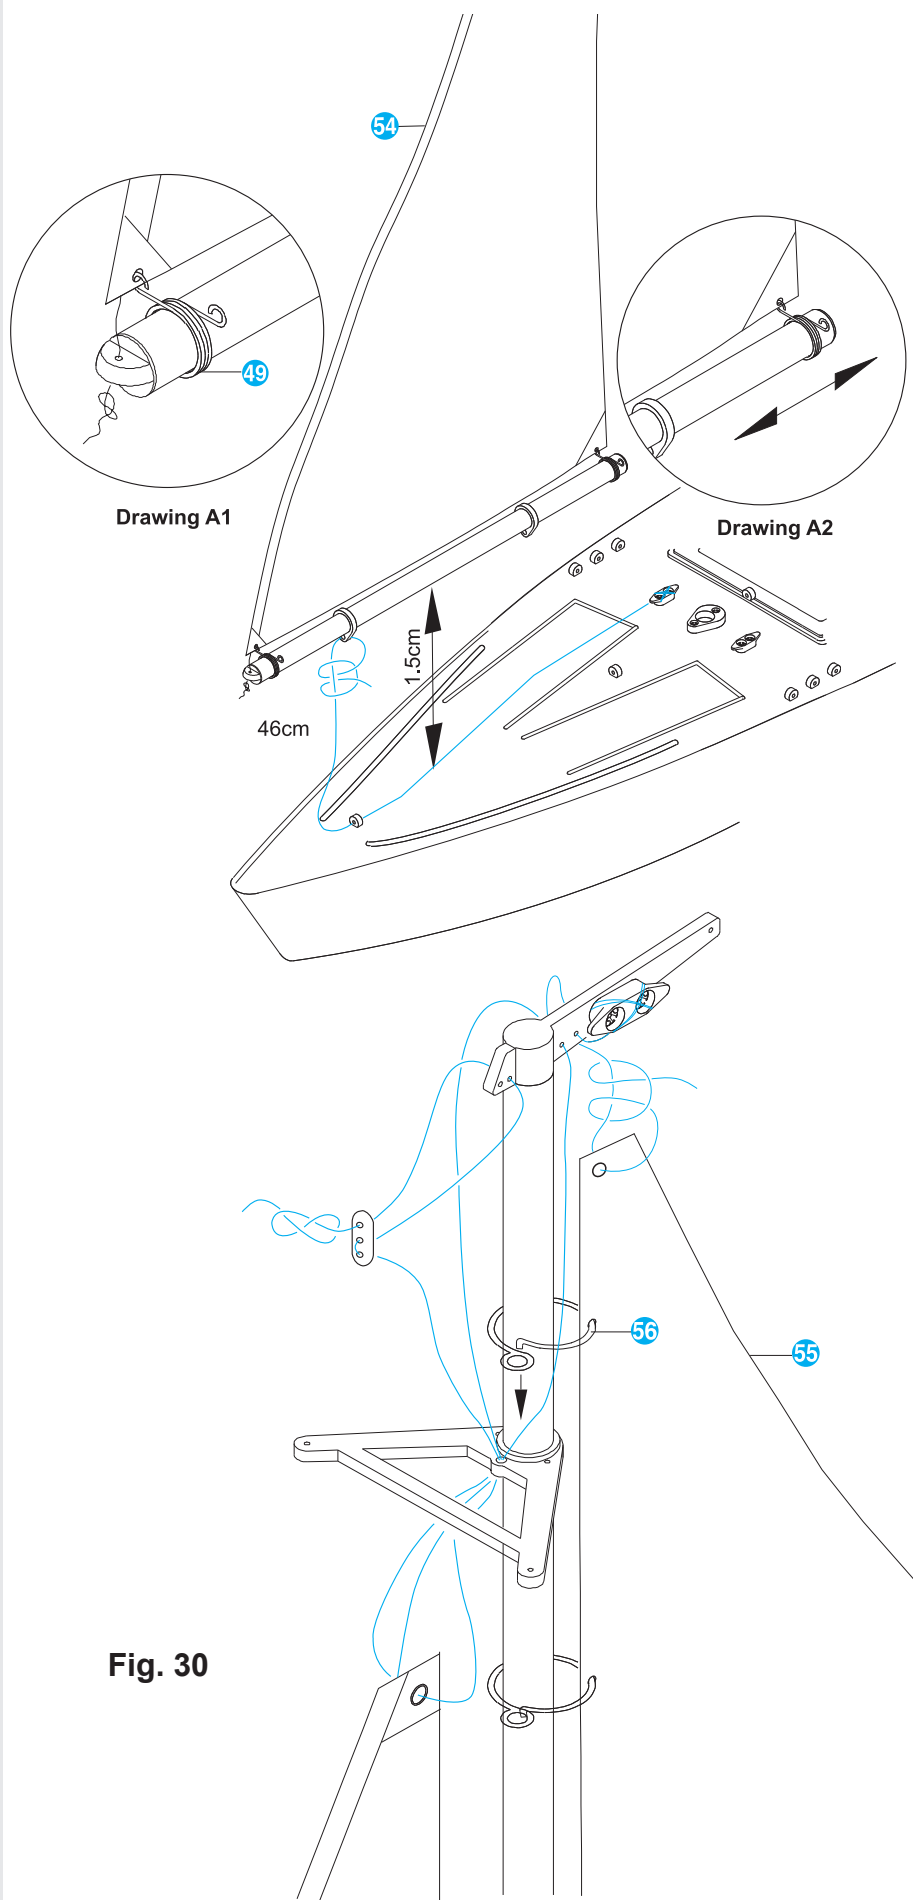

Fig. 30
6. Cut a piece of rigging string to a length of $7-1/2''$ (19cm). Attach the line to the top of the Main Sail **55**, and secure it to the mast top as shown in Fig. 30. Attach a Sail Ring **56** as shown.